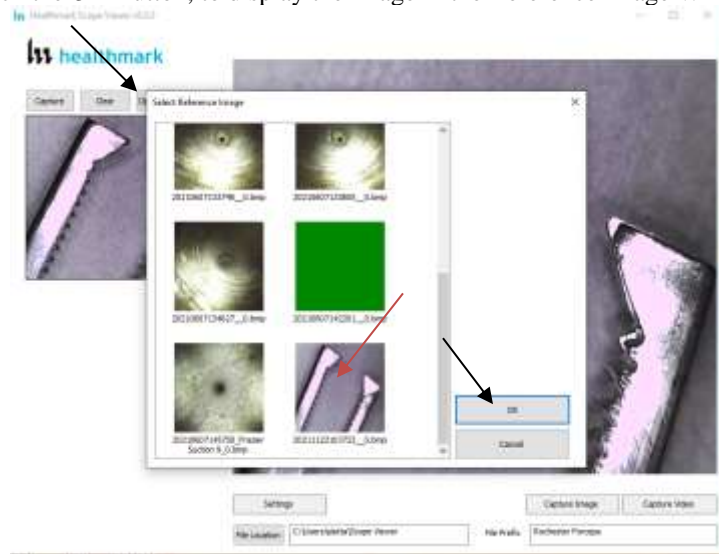

Figure 10
- c. Click the *OK* Button, to display the image in the Reference Image Window. (Fig 10).